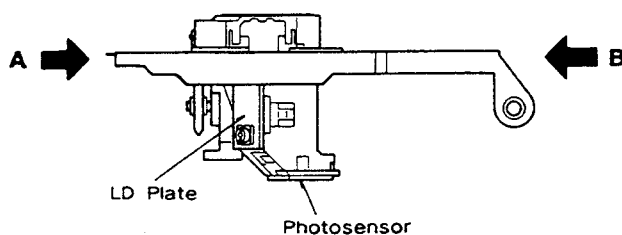

Fig.4-1
- (1) Do not apply shocks to the assembly.
- (2) Do not touch the object lens.
- (3) Do not place the assembly in a place subject to excessive dust, heat or moisture.
- (4) Do not disassemble.
- (5) During the transportation, mounting and dismounting of the assembly, support it with your fingers at points A and B as shown in Fig. 4-1. Be particularly careful not to touch the actuator, the photosensor and the LD plate, and do not apply force to them.
- (1) 落下，衝撃を加えない。
- (2) 対物レンズには手を触れない。
- (3) ゴミ・埃の発生する場所，高温・多湿の場所を避ける。
- (4) 分解はしない。
- (5) 持ち運び，取り付け，取り外しの際は，Fig.4-1のAとB部で支えてください。